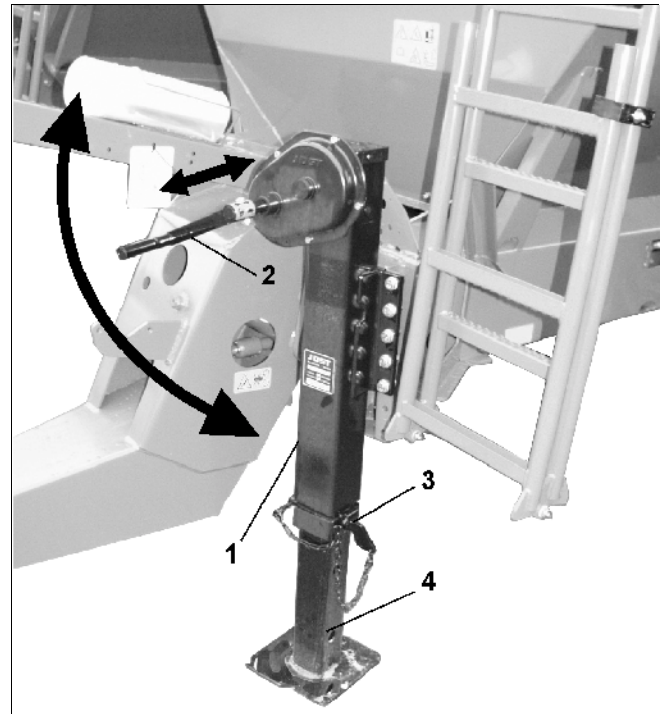

Fig. 12
- Use the hand crank (Fig. 12/2) to crank the support leg (Fig. 12/1) upwards until the stop.
- Pull the pin (Fig. 12/3) off the support leg.
- Insert pin in the lower hole (Fig. 12/4) and secure.